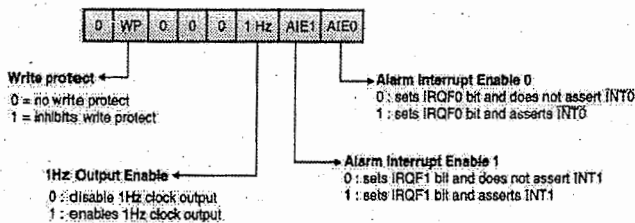

Fig. 14.11.4 : DS1306 control register
- Fig. 14.11.4 shows the DS1306 control register. It is of 8 bit. The control register has address 0FH for read and 8FH for write operations.